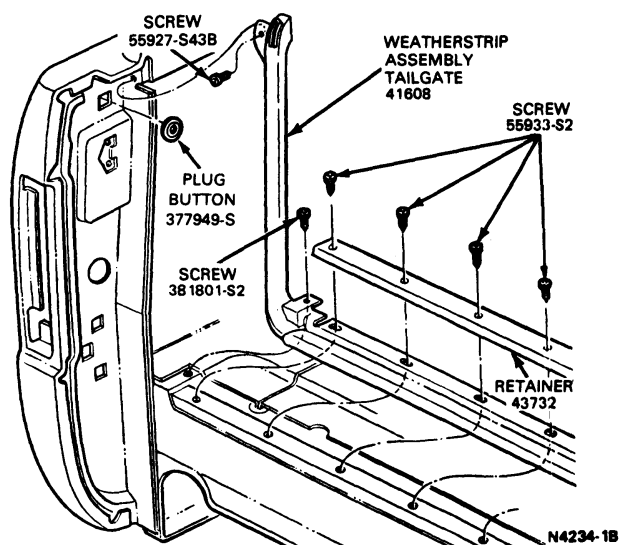

FIG. 1 Tailgate Opening Weatherstrips—Bronco
2. Remove the screws attaching the tailgate weatherstrip and weatherstrip retainer to the body (Fig. 1).